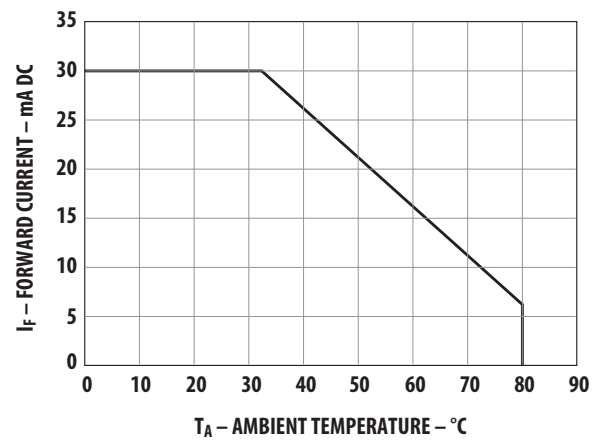

Figure 6. Maximum DC forward current vs. ambient temperature. Derating based on  $T_J$  max. = 115°C
- Derate linearly from 50°C as shown in Figure 6.